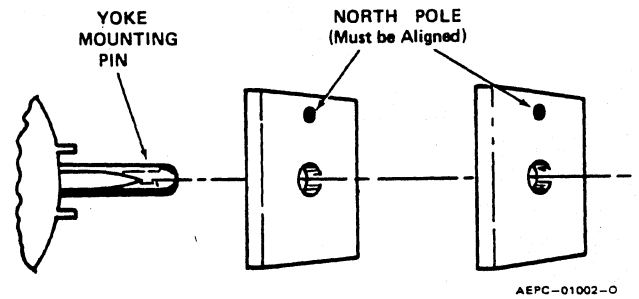

*Figure 11. Yoke Magnet North Pole Identification*
There are two (2) different strength yoke magnets available for correcting CRT geometry. The soft core (or flexible) magnet is the stronger of the two magnets. (Reference Figure 11 to identify their north poles.) Pincushion and trapezoidal correction generally require high strength magnets, and barrel correction requires a lower strength magnet for correction.